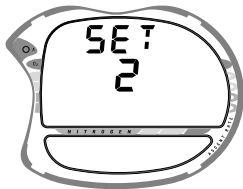

Fig. 17 - Set Mode 2
- after 4 seconds, SET: 2 appears (Fig. 17)